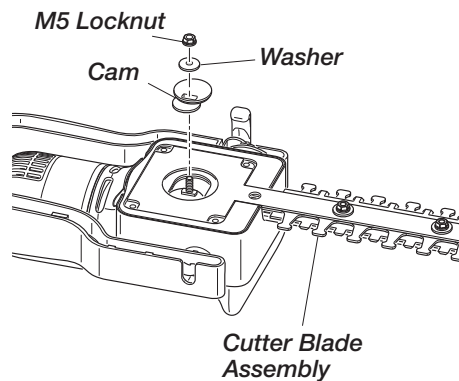

Figure 18 - Removing Cam
3. Remove M5 locknut and washer from cam (see Figure 18).
4. Align cam and cutter blade assembly. Remove cam. (see Figure 18).